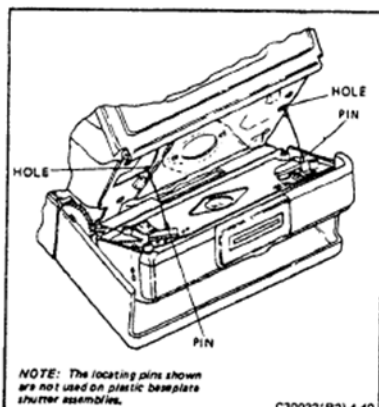

FIGURE 4-40 SHUTTER ASSEMBLY LOCATING PINS
- Position the shutter on the hinge bracket by aligning the locating pins (see Figure 4-40).